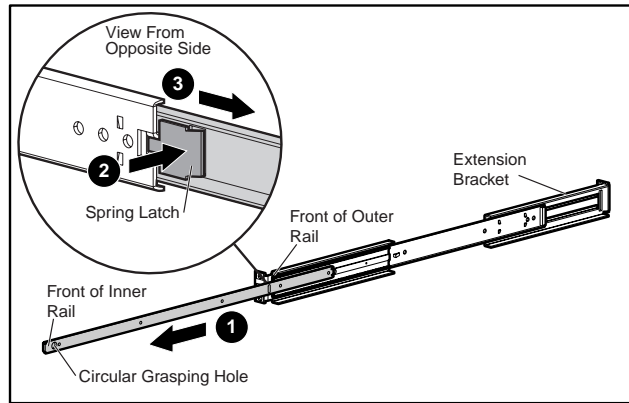

Figure 14: Separating the inner and outer rails
3. Separate the inner rail from the outer-rail assemblies (see Figure 14).